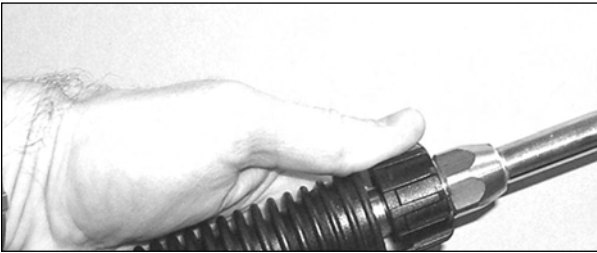

Figure 7– Attach lance to gun
- 7. Attach the lance to the gun (see Figure 7).